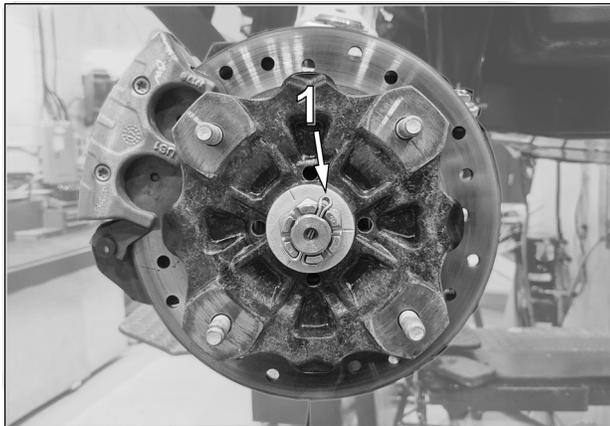

Fig. 17
7. Make sure that the cotter pin locking the wheel hub's castle nut (1) will not interfere with the Track System hub during installation. There must not be any resistance when the Track System is installed on the vehicle's wheel hub. See Fig. 17